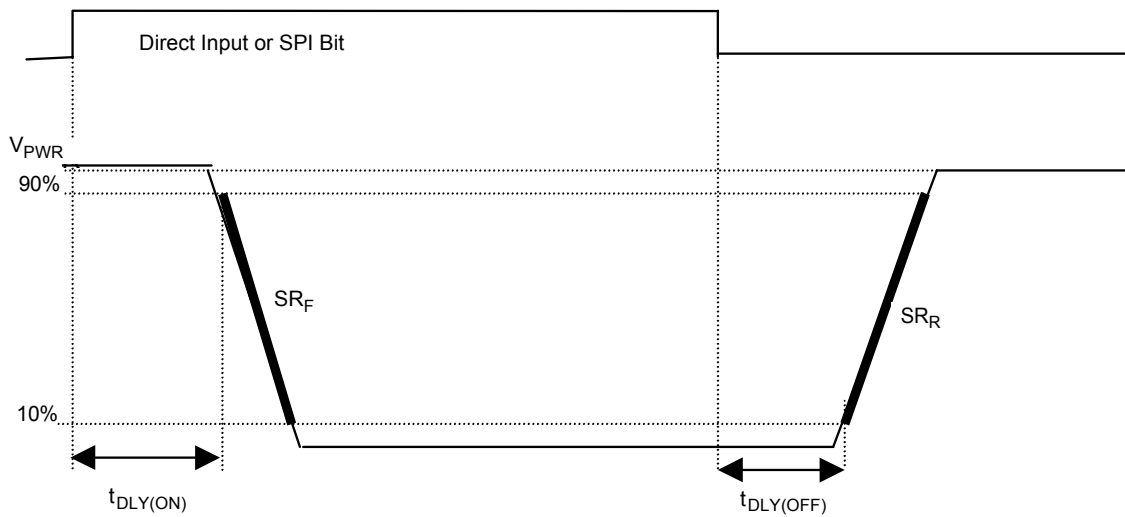

Figure 3. Output Slew Rates and Time Delays, Low Side
- Low-side output rise and fall slew rates measured across a 5.0 Ω resistive load at low-side output = 10% to 90% (see Figure 3, page 18).
- Low-side output turn-ON delay time measured from 50% of the rising ILS to 90% of VOUT with RL = 27 Ω resistive load (see Figure 3, page 18).
- Low-side output turn-OFF delay time measured from 50% of the falling ILS to 10% of VOUT with RL = 27 Ω resistive load (see Figure 3, page 18). These parameters are guaranteed by process monitoring.